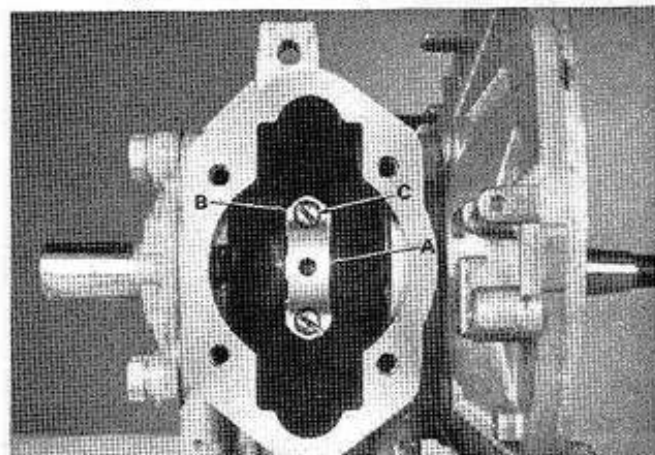

Figure 69. Rod Cap Removal.
- a. A clean cloth should be positioned under the rear of the engine before removal of the rod cap (A). (See Figure 69.) The cloth will catch any of the 28 needle bearings that may drop from the connecting rod when the cap is removed.
- c. Remove the two connecting rod cap screws (C). (See Figure 69.) Push the piston and rod assembly forward, through the cylinder bore of the engine.